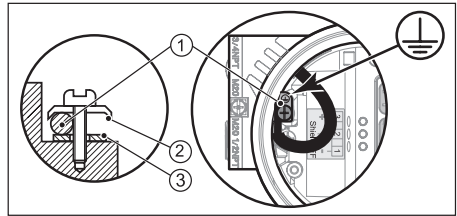

Fig. 4.1 Earth wire connections
* If required, mount earth wire (1) between top (2) and bottom (3) ring of earth wire connection (see figure 4.1).